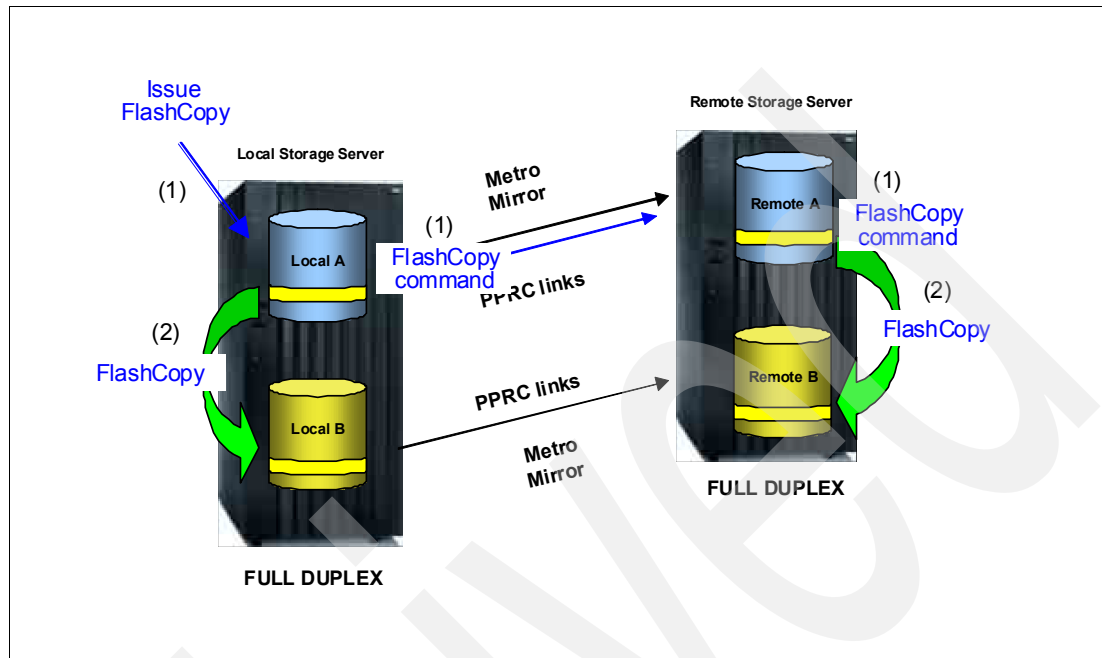

Figure 6-8 Remote Pair FlashCopy preserves the Metro Mirror FULL DUPLEX state
As the name implies, Preserve Mirror does preserve the existing Metro Mirror status of FULL DUPLEX. Figure 6-8 shows this approach, which guarantees that there is no discontinuity of the disaster recovery readiness.
2. Independently of each other, the Local Storage Server and the Remote Storage Server then executes the FlashCopy operation. The Local Storage Server coordinates the activities at the end and takes action when the FlashCopies do not succeed at both Storage Servers. Figure 6-8 shows an example where Remote Pair FlashCopy might have the most relevance: A data set level FlashCopy in a Metro Mirror CKD volumes environment where all participating volumes are replicated. Usually the user has no influence where the newly allocated FlashCopy target data set is going to be placed. The key item of this configuration is that disaster recovery protection is not exposed at any time and FlashCopy operations can be freely taken within the disk storage configuration.
This approach is also utilized by Remote Pair FlashCopy, as shown in Figure 6-8 on page 124.